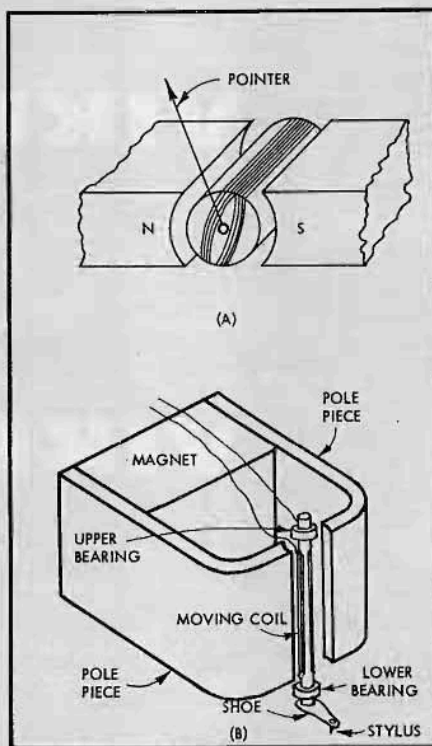
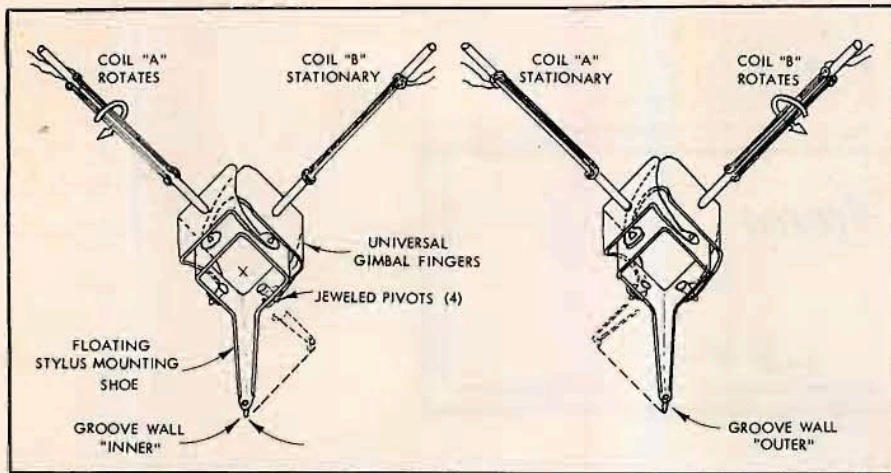

Fig. 2. (A) Diagram of a typical d'Arsonval meter movement, and (B) its adaptation as a phonograph pickup—the ESI C-60.
Fig. 3. Two d'Arsonval movements set at 45 deg. from the vertical and connected with the Gyro/Jewel coupling system.
In *Fig. 2*, (A) is a simplified line diagram of a typical d'Arsonval movement, while (B) shows the application of the principle to a monophonic pick-up, the ESL-C60 Series cartridge. Two similar systems were devised, and mounting assemblies designed to hold the armature axes at exactly 45 deg. from the vertical and at precisely 90 deg. from each other. The functioning of the movements is shown in *Fig. 3*.
As the stylus is influenced by the undulations of the record groove—in Fig. 3—angularly, to the left, the armature of generator A is caused to describe a corresponding rotary motion, while that of generator B, restricted by the armature mountings is unaffected by this excursion of the stylus.